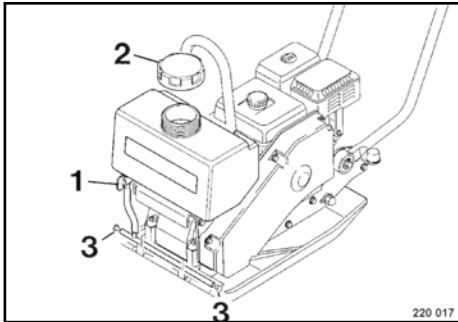

Fig. 69
Remove the cover (2)  Fig. 69 from the water tank and the lateral rubber cap (3) from the sprinkler tube.